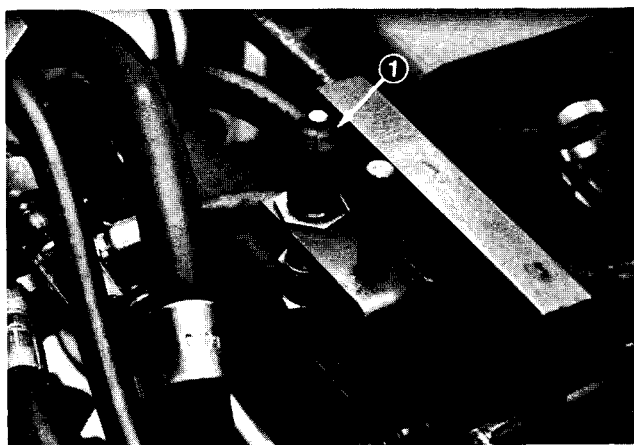

Figure 25
4. Screw new switch through mounting bracket until switch button is about 1/16 inch (1.6 mm) shorter than the top of the seat return spring pin. Install the boot into the mount grooves (Fig. 25).